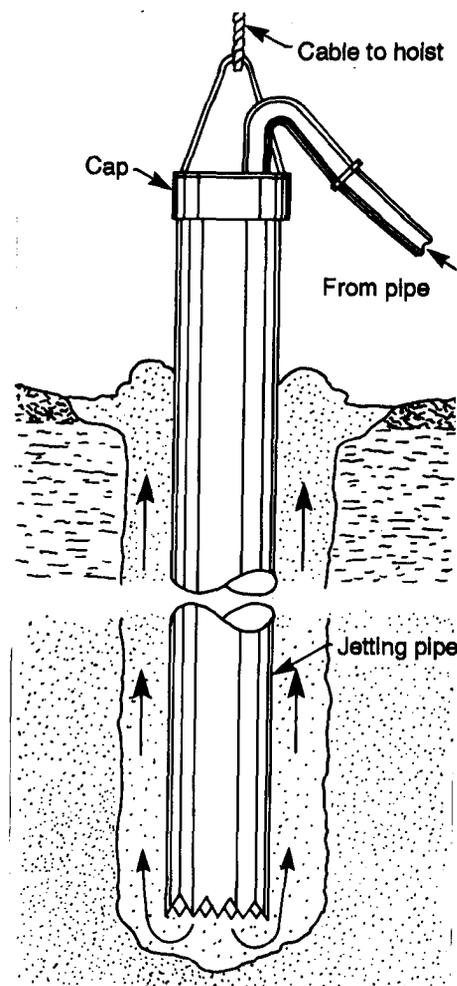

Figure 9-4. Cutting a casing
(1) Wash-In. Before washing the casing into the hole, cut the lower end of the casing to form a toothed cutting head (Figure 9-4, page 9-4). Normally, four to six 1-inch long (minimum) teeth are sufficient. Use the following steps to complete the wash-in method: